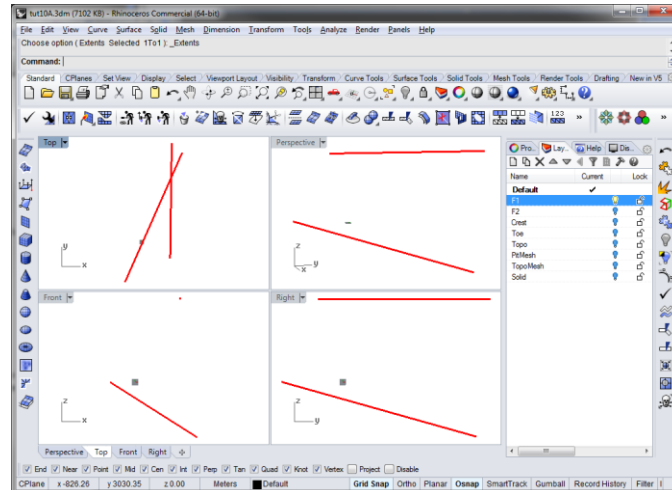

Figure 157: Fault F1 lines.
1. Turn off the **Solid** layer in the Layers Panel and turn Layer **F1** on. Double-click the label of the Perspective view to return to a 4-view mode to see two straight lines used to define fault F1 (Figure 157).